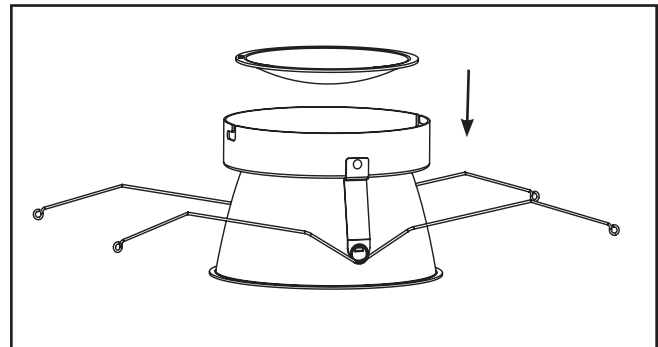

Figure 4.
2. Insert lens into lower trim with concave part facing down (Figure 4.).